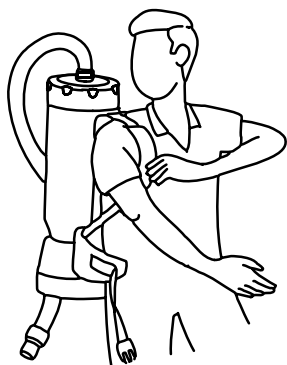

FIG. 17
6. Loosen the shoulder straps and waist belt. In an open area, lift the vacuum by one shoulder strap and slide your free arm into the other strap (Figure 17).